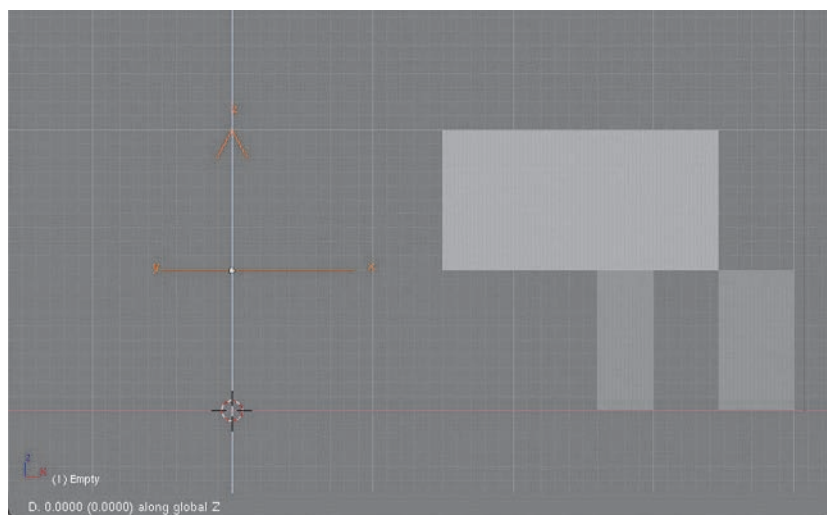

Figure 1.79 Translating the empty one BU up along the Z axis offsets the array.
1. By pressing the G key and then the Z key, and holding Ctrl to constrain the movement to discrete increments, translate the empty exactly one Blender Unit up along the Z axis. This will cause the second instance of the array-modified mesh to offset upward along the Z axis also, as shown in Figure 1.79.